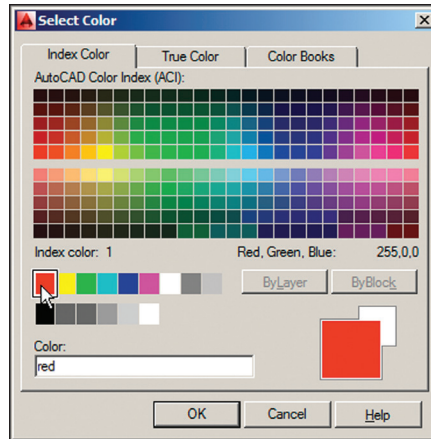

FIGURE 6.28 Selecting a layer color
8. Click Millwork-Upper's color swatch to open the Select Color dialog box. Click the larger red swatch where indicated in Figure 6.28 and click OK. Close the Layer Properties Manager.